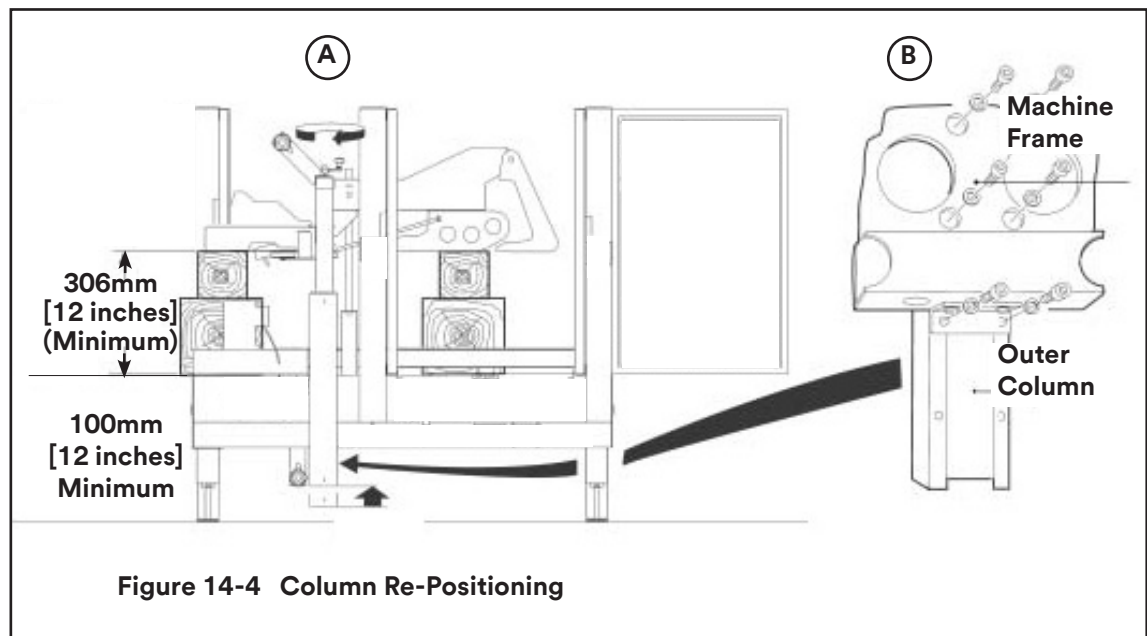

Figure 14-4 Column Re-Positioning
14.3 Outer Column Re-Positioning (Refer to Figure 14-4)